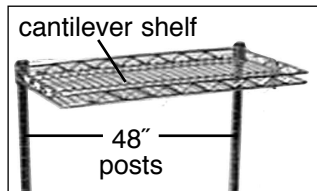

Figure 5
- Insert 48" posts through cantilever shelf collars and slide shelf down onto split sleeves (see Figure 5).